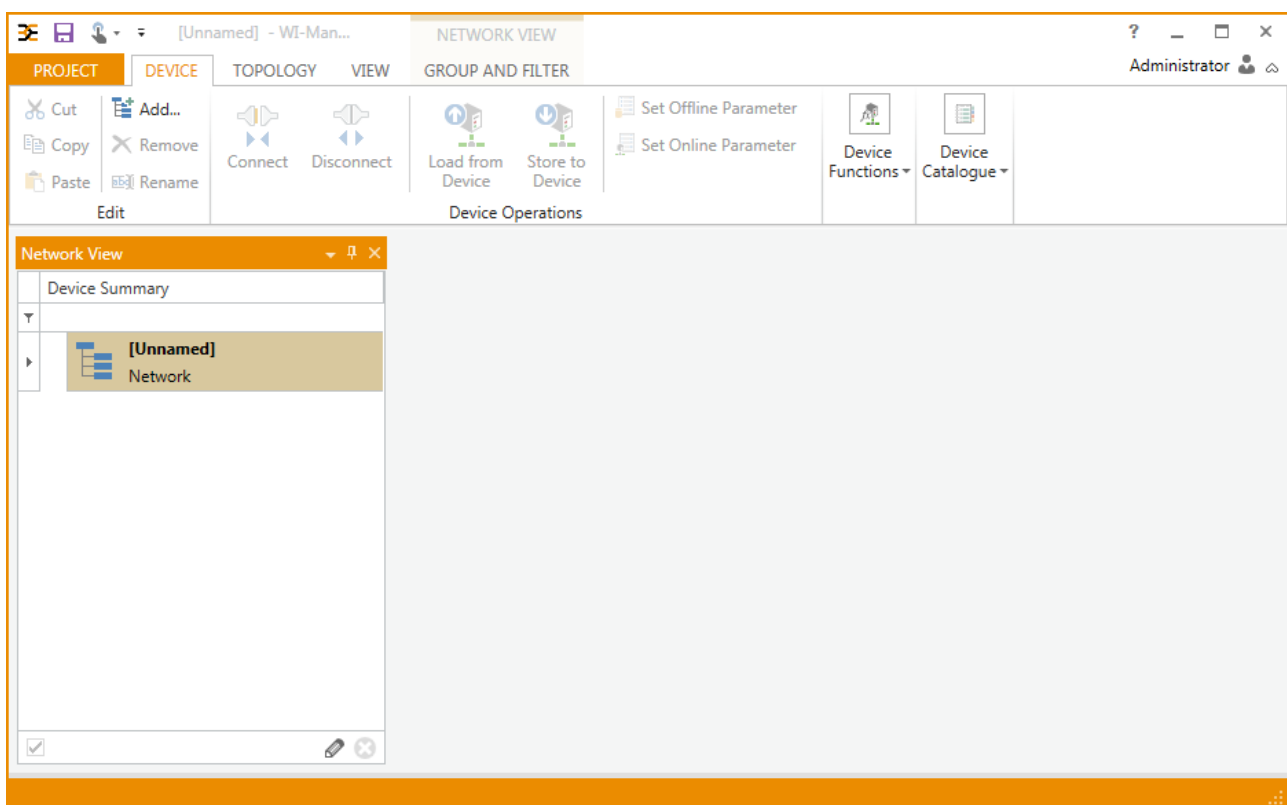

Figure 13: WI-Manager – New project
1. Now add a CBX200 interface or a Modbus TCP interface (alternatively) as well as an ACT20C gateway to the network shown in Figure 13 “WI-Manager – New project”: